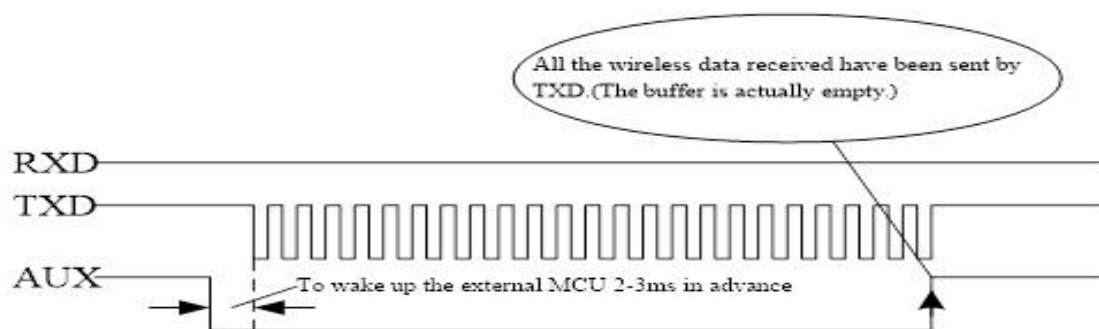

Figure 3: Timing Sequence Diagram of AUX when TXD pin transmits
- Function 1 : Indication of the UART outputs data (can be used to wake up the external MCU works in standby mode). See Figure 3.